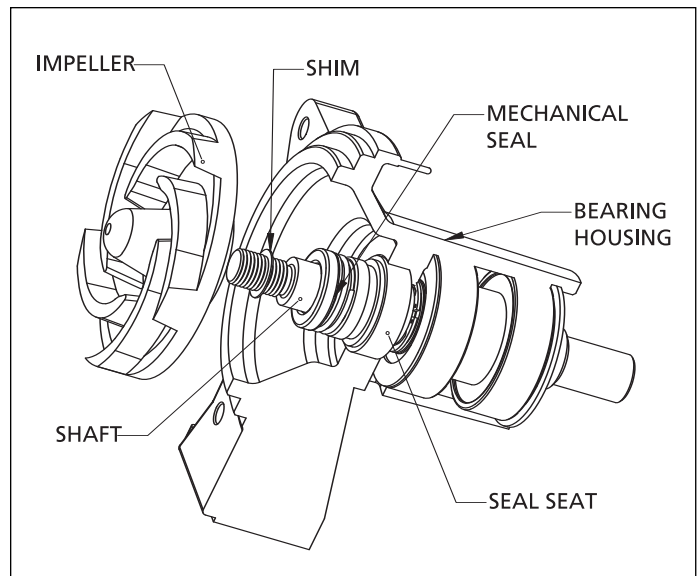

Figure 7 - Seal and Impeller Assembly
6. Wet the inside rubber portion of the new seal (part of Ref. No. 5) with a light coating of soapy water. Slide seal onto the pump shaft with the precision sealing surface (carbon) facing the seal seat ceramic face (see Figure 7). This completes seal installation.